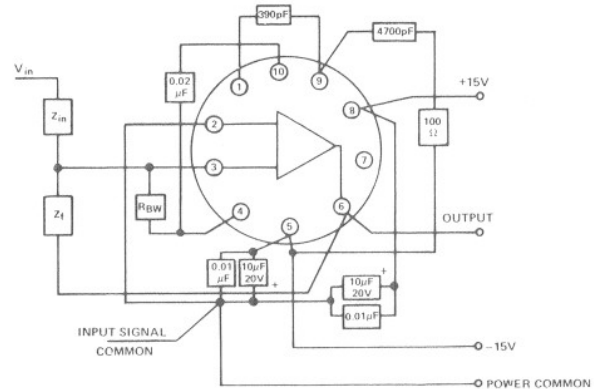

Figure 4. Wiring Diagram of the AD505.
- (1) Power supply bypasses should be provided as close to the amplifier as possible to eliminate ringing due to the inductance of power supply leads. A tantalum  $10\mu F$  capacitor in parallel with a ceramic  $0.01\mu F$  capacitor is sufficient for this purpose (see Figure 4).
- (2) All ground connections should be made at a single ground point.
- (3) Keep leads short to eliminate stray impedance effects.
Figure 4 shows an optimum wiring diagram of the AD505.